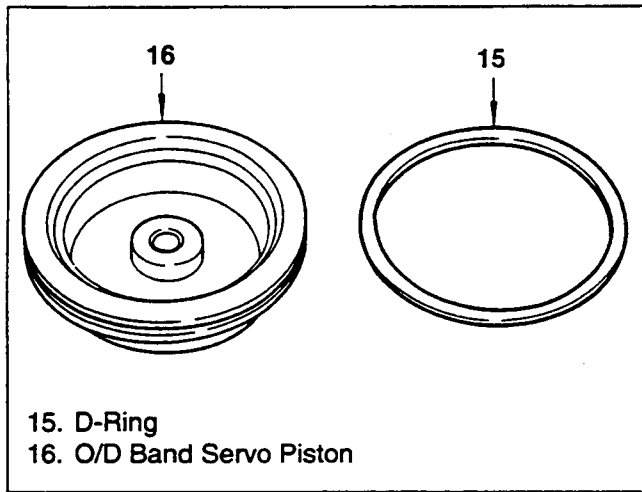

Figure 202. D-Ring Removal
2. Remove the D-ring from the O/D band servo piston (figure 202).